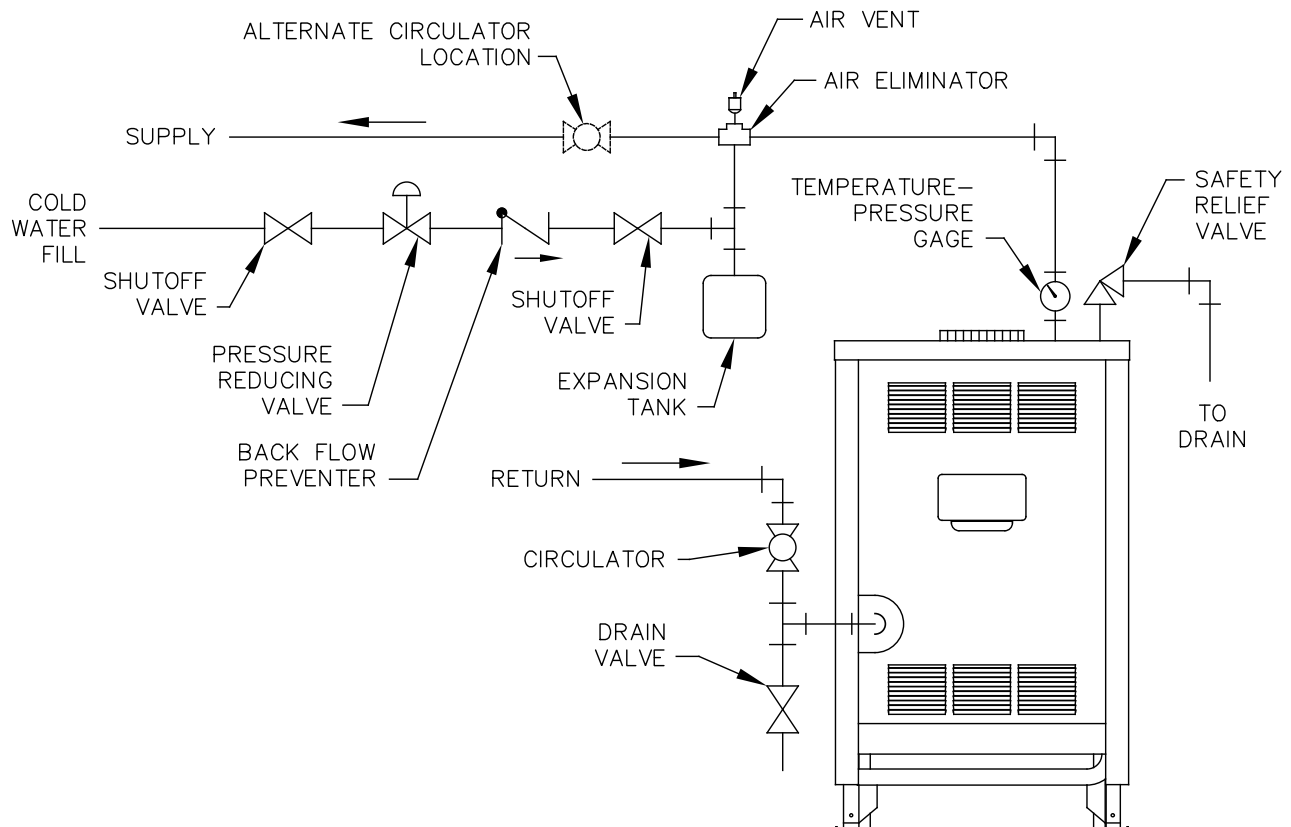

Figure 3.2: Typical Supply and Return Piping
4. **Install supply piping,** return piping and circulator. See Figure 3.2.
Refer to Figure 3.2 for typical expansion tank piping.